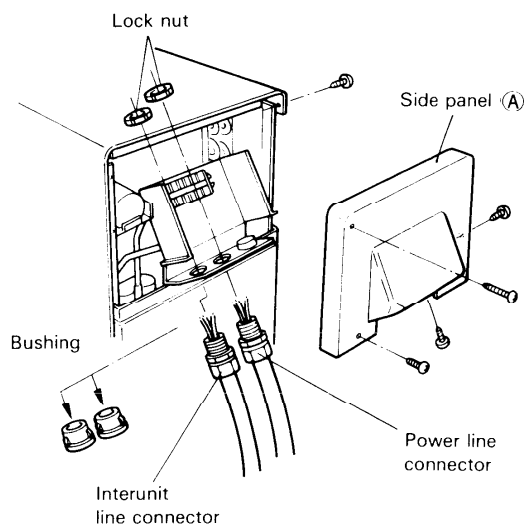

Fig. 12
NOTE : When working only on the wiring, it is possible to gain access to the wiring terminals by simply removing the side panel (A). Fig. 12.